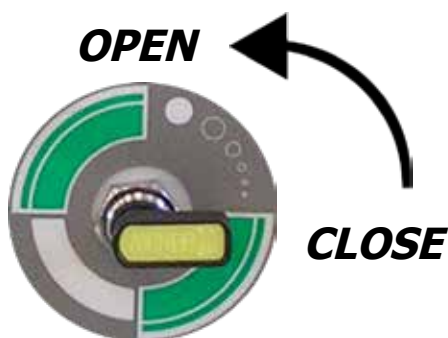

Fig. 1
- Select "CHARGE TO VEHICLE" with the "+ □" and "- □" buttons. Press OK to start the cycle (Fig.1)
- Oil must be charged by means of the "Oil" valve (fig.1), through which they will be drawn up due to the vacuum formed, before pressing the OK button for gas charge.